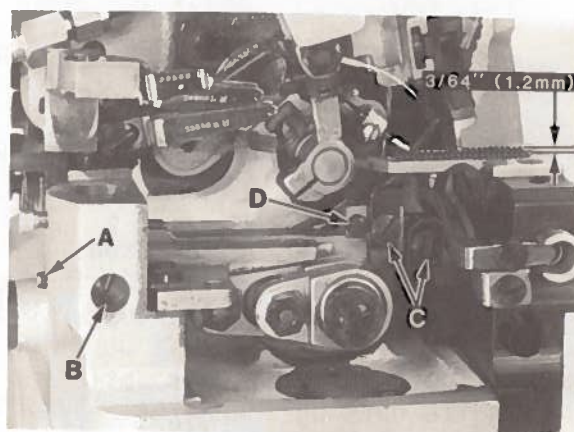

Fig. 15
Rotate handwheel in operating direction until teeth of rising feeds are above the top surface of throat plate. The feeds should be level with throat plate at this time. With feeds at highest position of travel, their teeth should extend approximately $\frac{3}{64}$ inch (1.2mm) above throat plate as shown in Fig. 15.
If adjustment is required, loosen lock screw (A) and rotate tilt adjusting pin (B) as required to level feeds, then tighten lock screw (A). Loosen feed attaching screws (C) and adjust feeds up or down to obtain proper height above throat plate as shown in Fig. 15, then tighten screws (C).